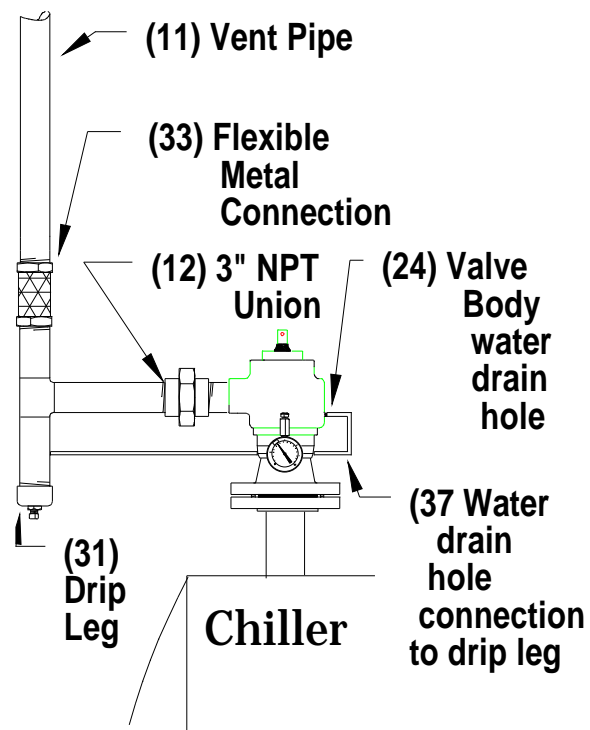

Figure 2.
(see Figure 2 on page 8)
4. It is recommended that a flexible metal connection (33) and a 3" NPT union (12) be installed as illustrated in Figure 2.
5. The installer shall determine the best way to plumb the discharge vent line using figure 2 as a piping guide.
1. **BEFORE SERVICING THE VALVE**, pull up pull ring (25) and insert a pin in 2nd hole (17) of tension bar (26). This will protect the valve seat O-Ring and keep the valve body from popping up when valve body locking screws are removed.
2. After pinning the spring tension bar, break vent pipe union (12) (see Figure 2 on page 8).
3. Next, remove the five (5) valve body locking screws (9), and lift valve body (7) from the valve nozzle (32).
4. Inspect valve seat O-Ring (1) and valve body O-Ring (2). If there are any visible signs of wear or excessive compression set, replace the O-Rings. Lightly oil the valve seat O-Ring to facilitate installation into the dove-tail O-Ring groove.